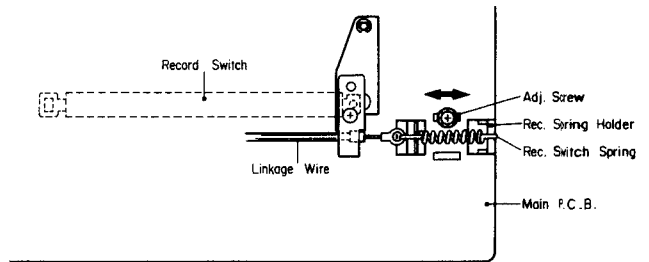

Fig. 4.17
- (1) Set the LX-3 in Stop mode.
- (2) Loosen the screw of the Record Spring Holder, and shift the Record Spring Holder in order to remove the looseness of the Linkage Wire as shown in Fig. 4.17. Then tighten the screws for fixing the Record Spring Holder. (In this case, the Record Switch should be positioned at play side. If on the record position, it will be defective.)